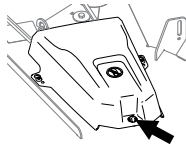

Figure 6
4. Pull up the side of the cover with the grommet and slide the cover off. (Figure 6).